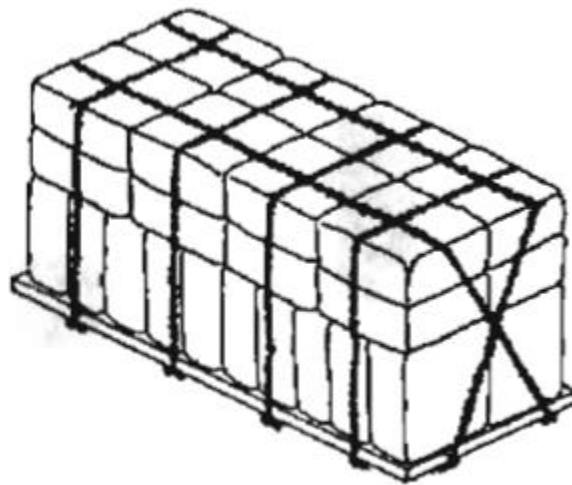

Figure 6
- (3) Loads with vertical bales two across in the bottom tier and horizontal bales in the tier(s) above, see figure 6: